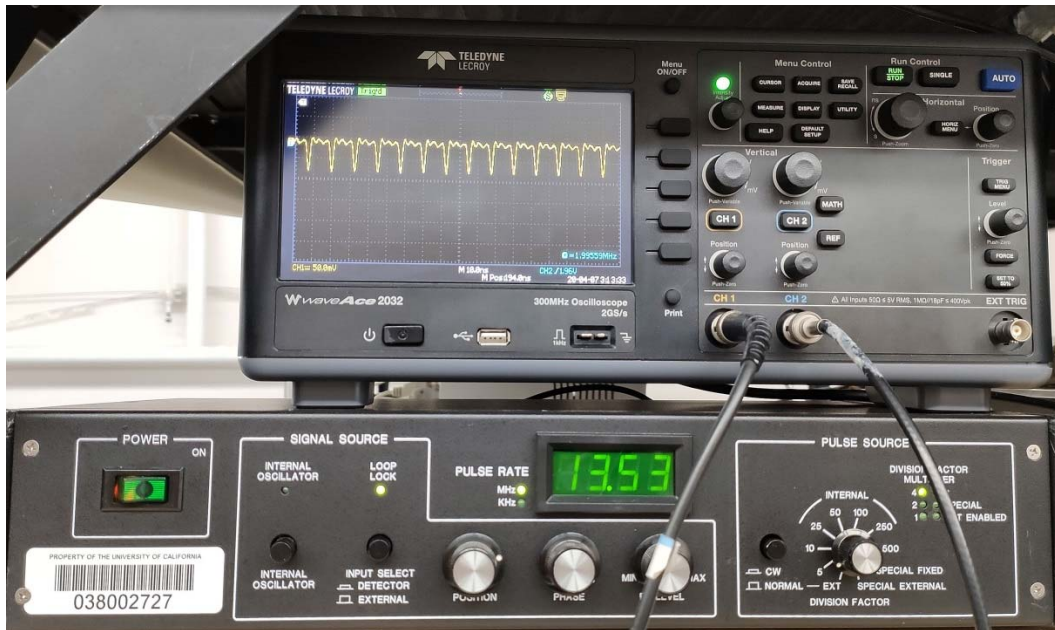

Figure 3. Laser pulse train in the CW diffraction mode.
12. At this point, a train of pulses should be seen on the oscilloscope screen (see Figure 3). Use BS2 alignment knobs to maximize the amplitude of pulses. If there is a noticeable low frequency modulation, make sure that the Tsunami laser power is peaked. To see the modulation better, one may need to increase the oscilloscope time base settings to 1 ms/div or so. If the modulation persists after the power peaking, one may try **small** adjustments of laser mirror LM2 or the laser prism setting while observing the pulse train envelope. Adjust only one knob at a time and return it back to the initial position if the adjustment does not quench the modulation. Contact the OCF staff member if the problem persists.